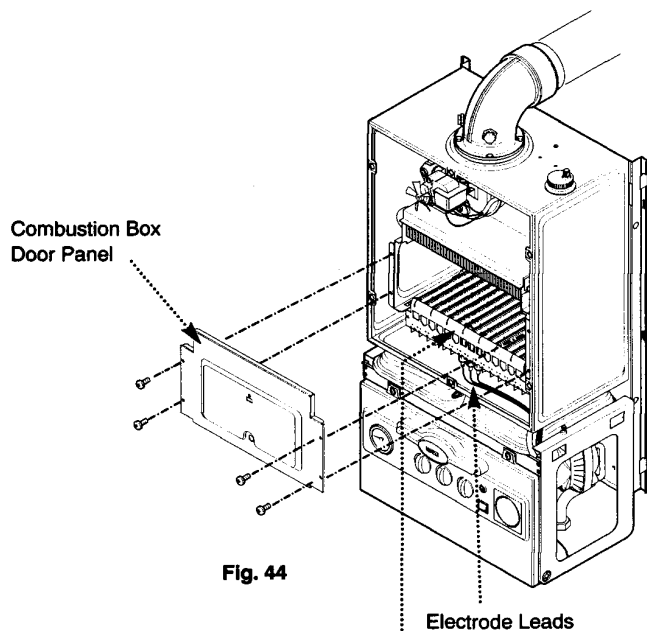

Fig. 44
8. Undo the four screws securing the combustion box door and remove the door (Fig. 44).
11. Remove the electrode leads from the electrodes (noting their positions) and withdraw the burner (Figs 44 & 45).